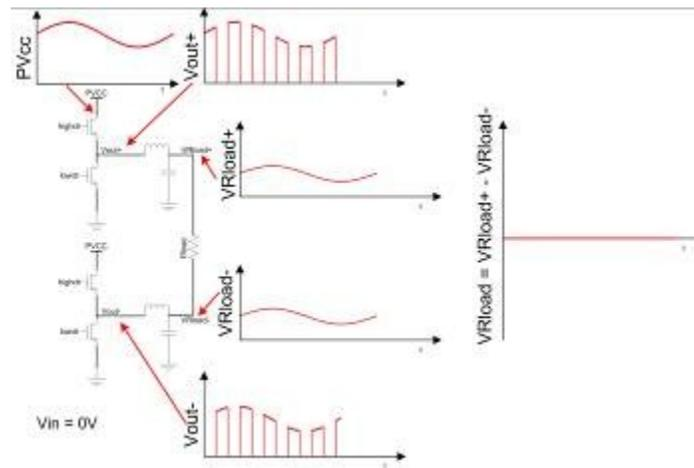

Figure 2. BTL Class-D PSRR measurement with LC filters
**Figure 2** shows the traditional PSRR measurement on a Class-D BTL audio amplifier.